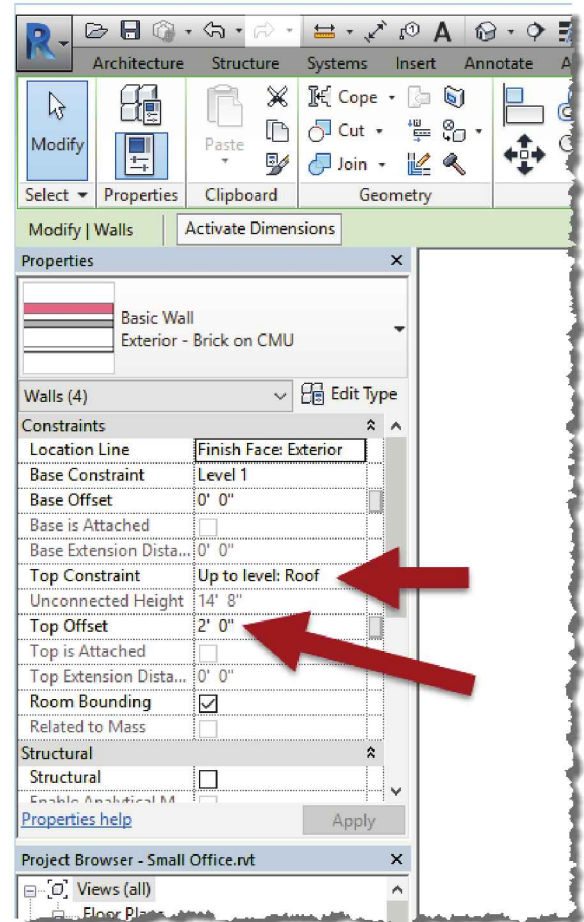

Figure 2-4.2B Selected wall properties
- c. Click **Apply** (Figure 2-4.2B).